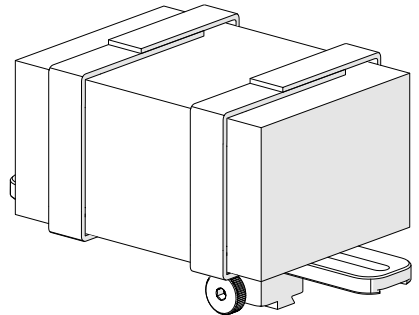

Fig. 275 - Velcro wrapped around preamp
3. Secure the preamp to the bracket attaching each side of the velcro (*Fig. 275*).